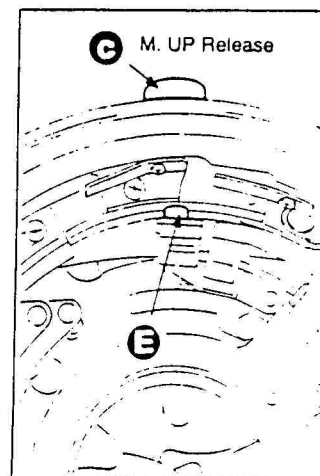

Fig. 5
Note : 4) When removing the shutter charge M. ass'y barrel, be careful not to miss the pin ⑤ of M. UP release ③. (See Fig. 5.)